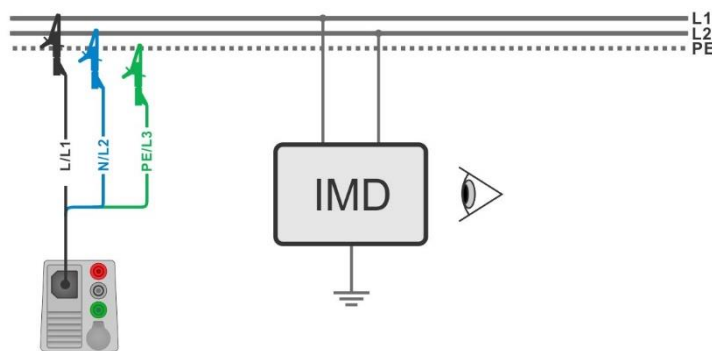

Figure 7.116: Connection with 3-wire test lead
- › Connect 3-wire test lead to the object under test, see **Figure 7.116**.